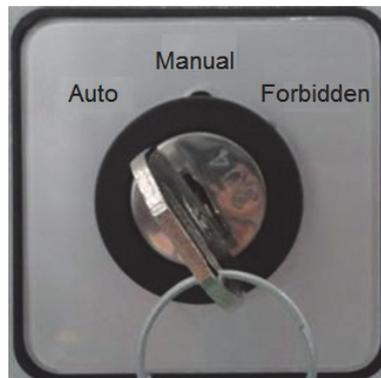

Fig.3 Selection switch of auto bypass cabinet working Mode
- Optional switch SF1 of auto bypass cabinet working mode is available, making it more flexible to choose working mode to prevent incorrect operation, as shown in Fig.3.